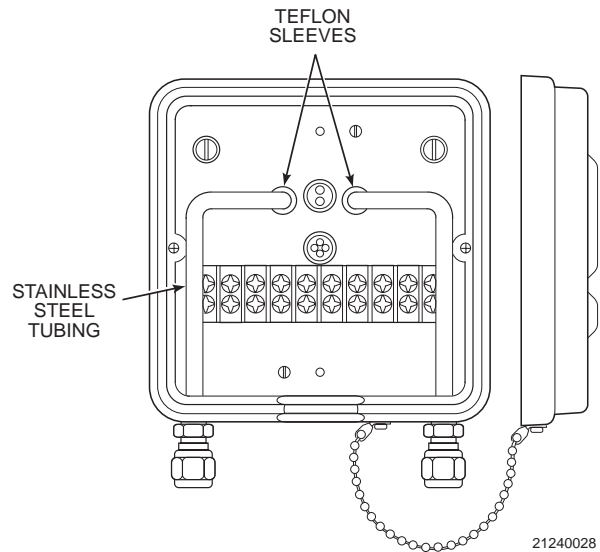

Figure 3-8. High Temperature - Corrosive Environment Kit
2. First install the stainless steel tubing on the fitting at the bottom of the probe junction box. Install the other end of the stainless steel tube onto the tube going to the probe (Figure 3-8).